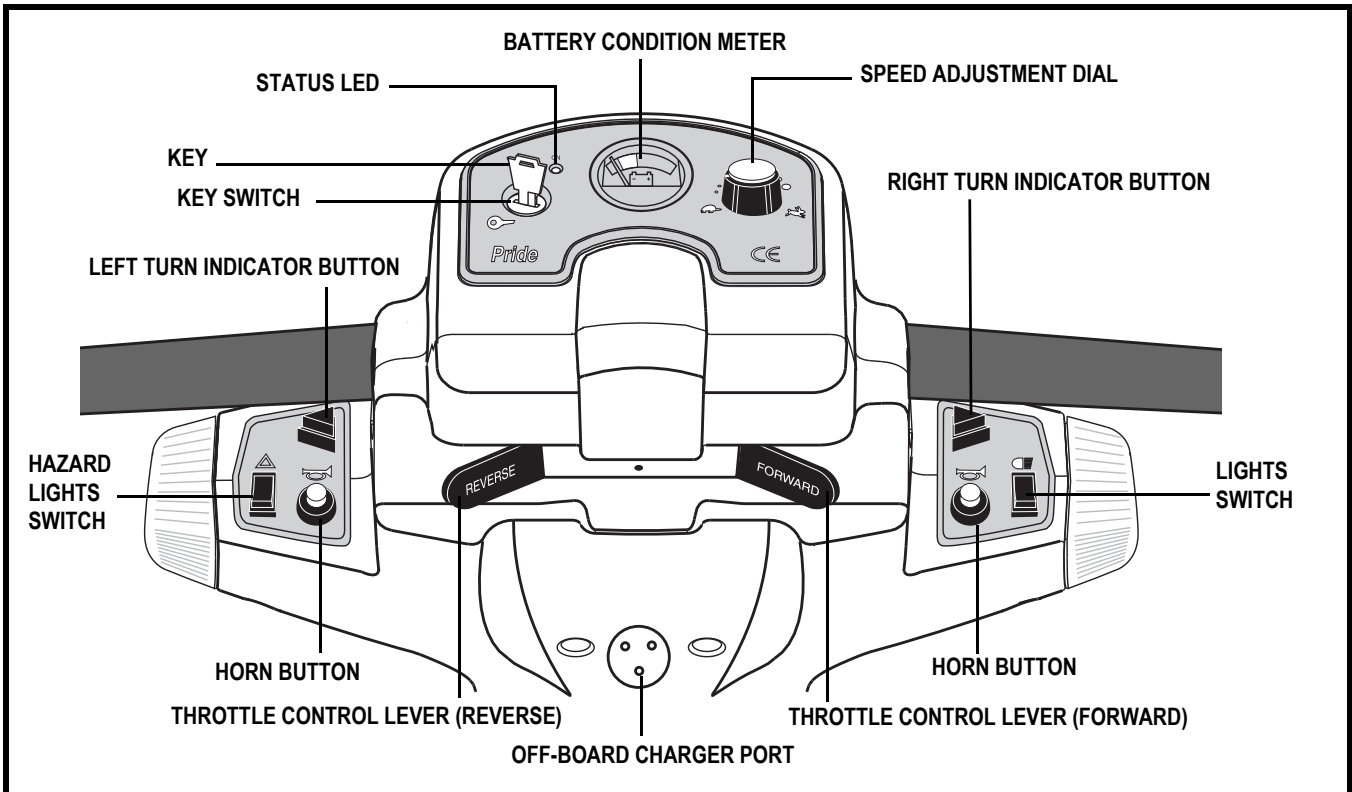

Figure 5. Control Console Assembly
The control console assembly houses all of the controls you need to drive your scooter, including the key switch, speed adjustment dial, status LED, throttle control lever, battery condition meter, horn buttons, lights switch, turn indicator buttons, off-board charger port and the hazard lights switch. See figure 5.
4. Plug the 3-pin charger power lead into the off-board charger port. See figures 5 and 9.